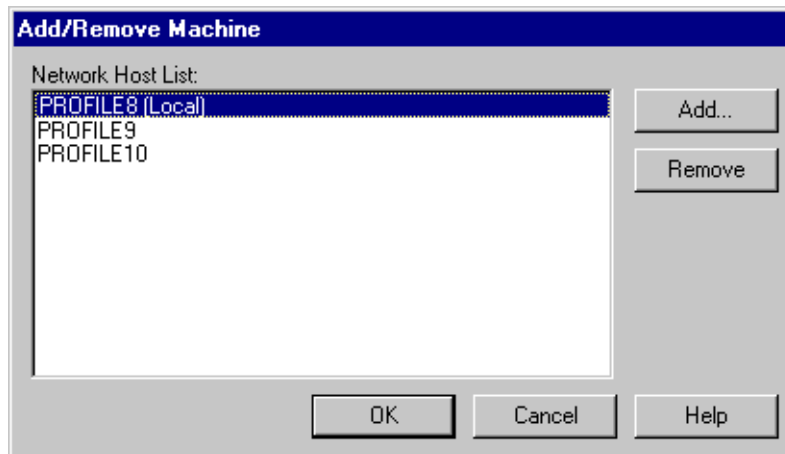

Figure 47. Add/Remove Machine dialog box
1. Choose **Add/Remove Machine** from the **File** menu or from the shortcut menu with a right-click on a machine, volume, or network icon in the tree pane. You can also click the **Add/Remove Machine** button on the toolbar. The Add/Remove Machine dialog box appears (see Figure 47). The label *Local* appears after the name of the local Profile machine.